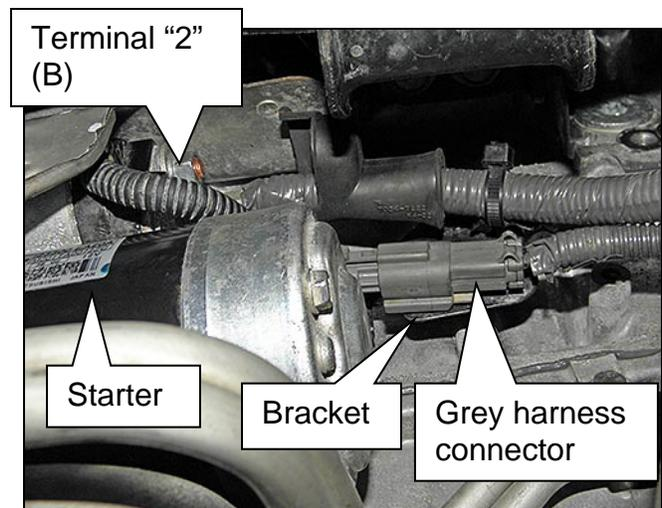

Figure 33
44. Install the starter cable to terminal “2” (B) and then secure to the bracket on engine block (Figure 33).